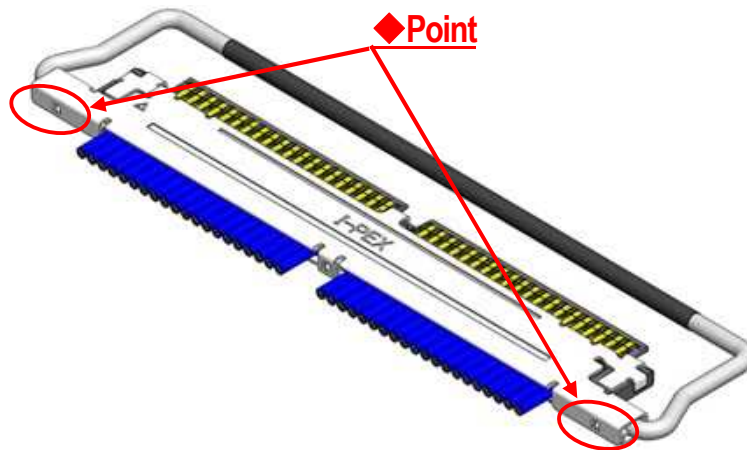

Fig.9 Soldering of SHELL-A and SHELL-B
- ④ Soldering SHELL-A and SHELL-B with the soldering iron at all designated points is recommended. (Fig.9 ◆point)